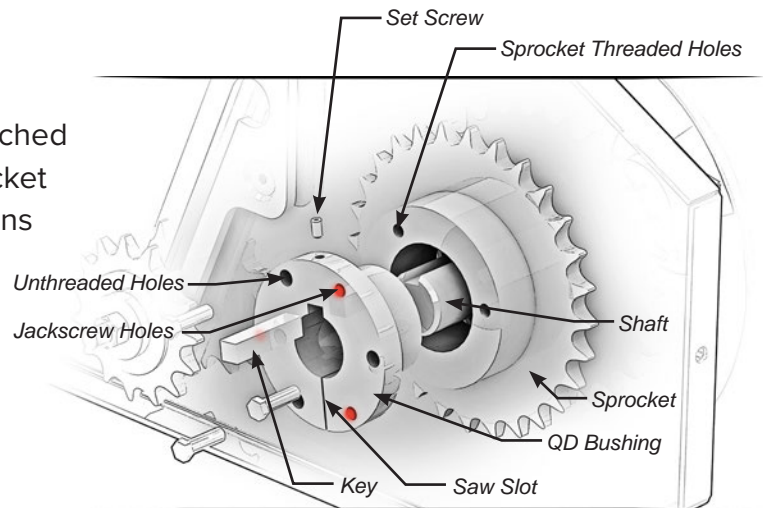

FIGURE 11.2
The drive chain sprocket on some airlocks is attached using a QD Bushing (see Figure 11.2). If the sprocket becomes worn, reference the following instructions to replace it:
- a. Loosen the setscrew on the QD bushing (see Figure 11.2).
- c. Insert the cap screws into all the threaded jackscrew holes (Figure 11.2).
- b. Line up the unthreaded holes in the QD bushing (Figure 11.2) with the threaded holes in the sprocket (Figure 11.2) and insert the cap screws with the lock washers. Engage only two or three threads.